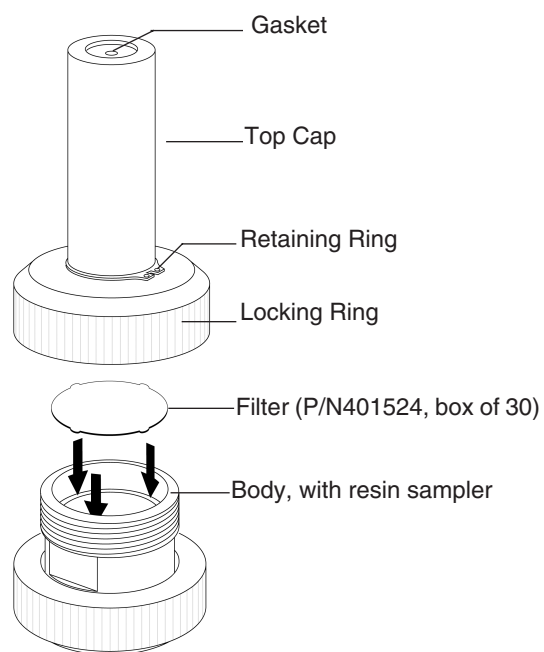

Figure 8-13. Placing a filter in the top of the small scale reaction vessel
3. Activate valves 2, 17, and 23 to pressurize the reaction vessel. Check for leaks around the reaction vessel locking rings (see Figure 8-13) and, if the reaction vessel has a resin-sampling line, check at the bulkhead fitting.